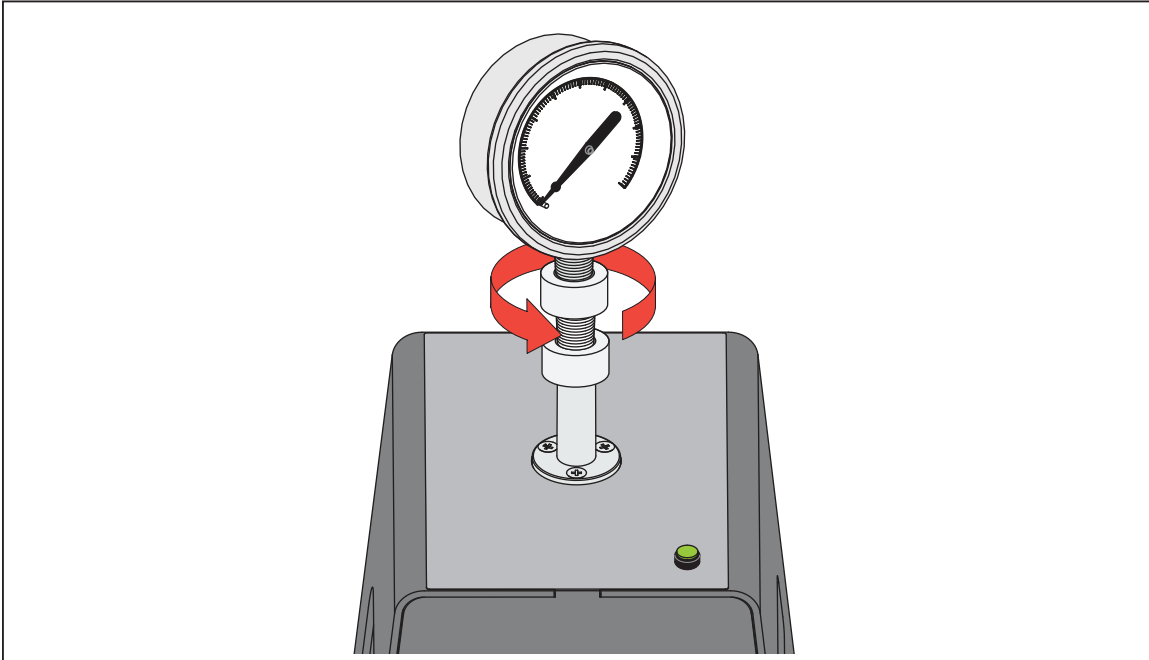

Figure 20. Connect Assembly to Test Port
2. Screw down the assembly COUNTER-CLOCKWISE on to the test port, see Figure 20.